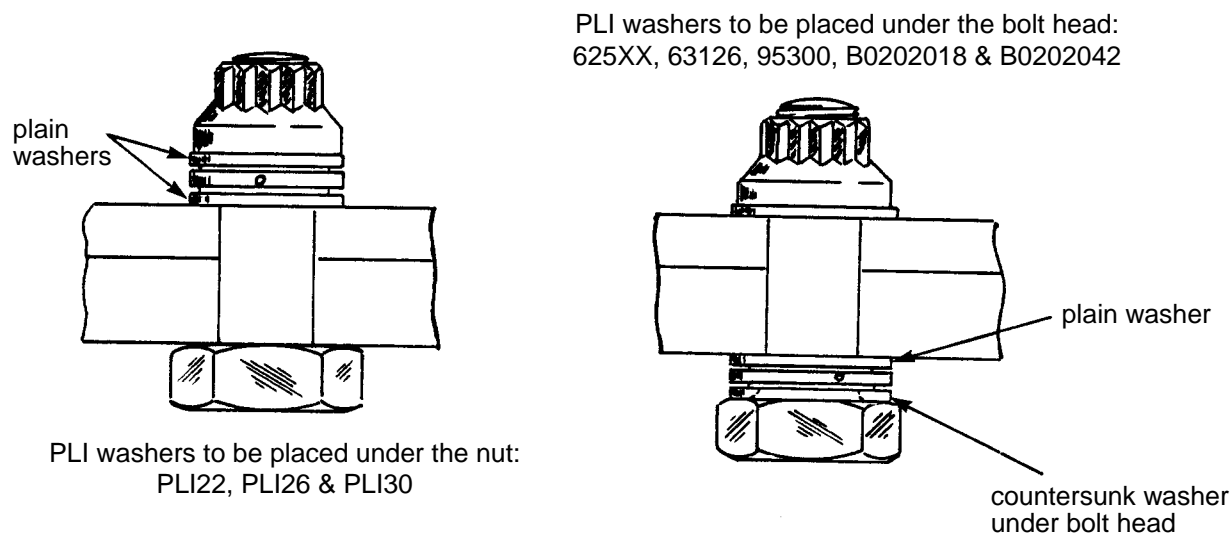

Figure 4 - PLI Washer Installation (Typical)
- 5.3.1 Install 625XX series, 63126, B0202018 and B0202042 PLI washers under the bolt head, with the countersink side of the countersunk washer against the head of the bolt to provide clearance for the bolt shank fillet radius (see Figure 4).
- 5.3.2 Install PLI22, PLI26 and PLI30 PLI washers under the nut (see Figure 4).